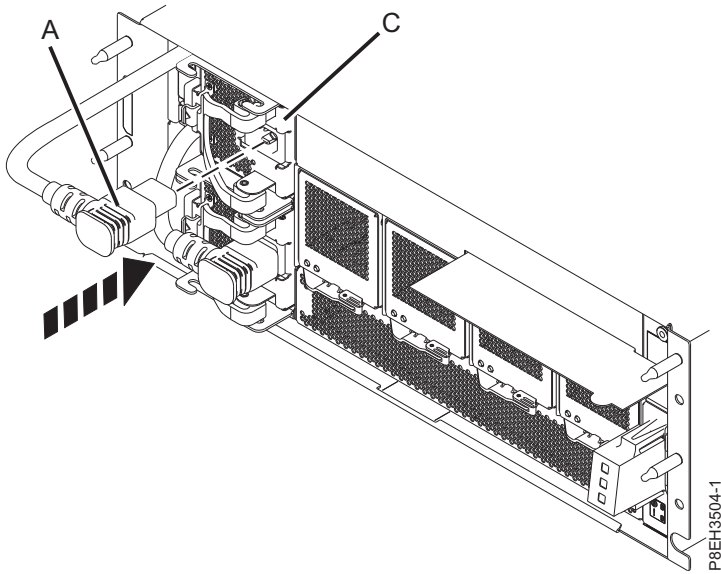

Figure 7. Connecting the power cord to the power supply in the EMX0 PCIe3 expansion drawer
3. Connect the power cord (A) to the power supply (C), as shown in Figure 7 on page 6. Repeat this step for the remaining power supply.